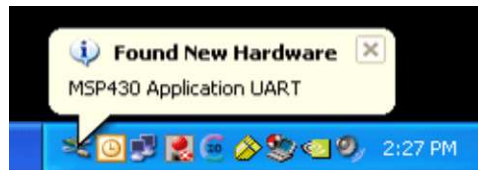

Figure 15. Windows XP Hardware Recognition for MSP430 Application UART
5. Windows recognizes another new hardware driver to be installed called **MSP430 Application UART** (see Figure 15).